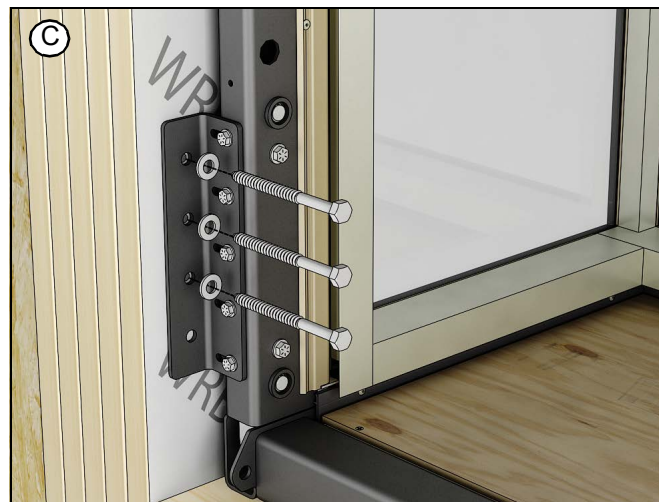

Figure 25
3. Fasten the Installation brackets tight to the RO using 1/2" (13) lag bolts and washers (Kit C). See Figure 25.